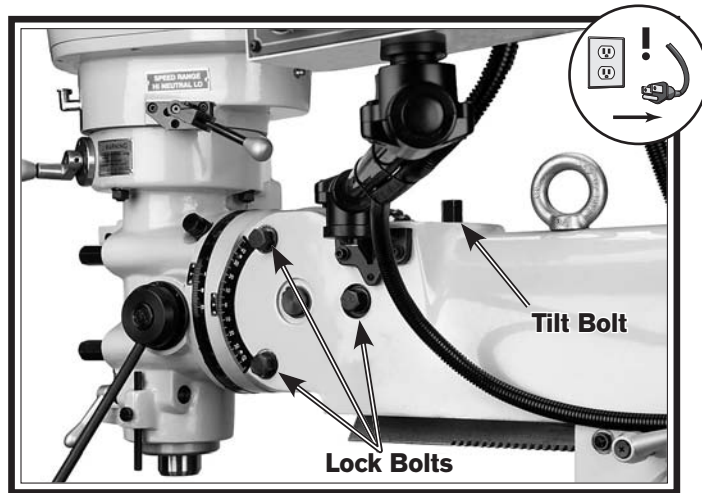

Figure 28. Head tilting controls.
2. Loosen the three tilt lock bolts on the right side of the ram adapter shown in **Figure 28**.